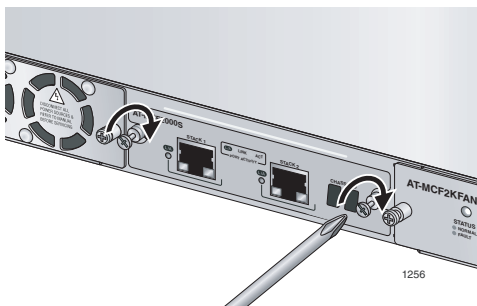

Figure 5. Securing the AT-MCF2000S Stacking Module
6. Secure the module to the chassis by the tightening the two captive screws with a cross-head screwdriver. See Figure 5 on page 22.